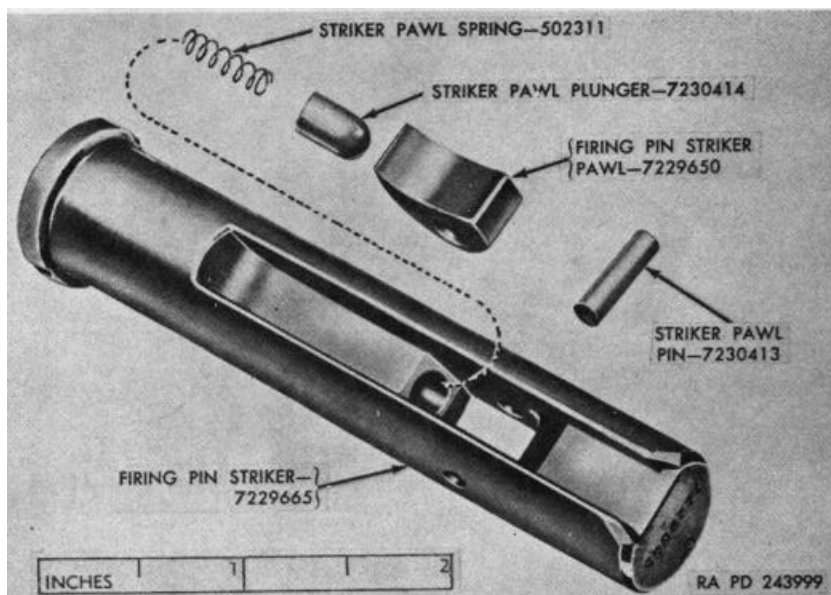

Figure 15. Firing pin striker and related parts.
e. Lift out firing pin striker (H). Drive out striker pawl pin and remove firing pin striker pawl, striker pawl plunger, and striker pawl spring (fig. 15).
f. Depress the selector plunger (P), raise housing cover (D), and remove firing selector (Q). Withdraw the firing lever (A) slightly over one-eighth of an inch to disengage the firing lever spring (M), rotate slightly and push the lever in again to eject the spring and withdraw the firing lever. Pry firing lever spring out of lever spring sleeve (N), using the firing lever.
g. Shake out the striker pawl tripper (B).
h. Drive out cover pin (C) and remove cover (D).
i. Chip off staking around selector plunger (P) with a small rod through other side of housing (S); drive out plunger (P) and spring (R).
- b. Assemble firing pin striker unit as outlined in (1) and (2) below.
- (1) Insert striker pawl spring and striker pawl plunger in their seat in the firing pin striker (fig. 15).
- (2) While compressing the spring, insert firing pin striker pawl, higher side against plunger, and secure with striker pawl pin (fig. 15).
- c. Slide the firing spring stop (J) over the firing pin striker (H) and follow with the firing spring (K).
- d. Insert the selector plunger spring (R) and selector plunger (P) into the middle side hole of the firing mechanism housing (S) and peen lightly.
- e. Press in the selector plunger (P) and press housing cover (D) into position so as to permit insertion of cover pin (C) from plunger side of firing mechanism housing (S). With cover pin in position, leave the cover open.
- f. Assemble firing lever spring (M) in the lever spring sleeve (N), loading the spring about one-half turn and latching the shorter end with the notch in end of sleeve. Push this unit into the firing mechanism housing (S).
- g. Place striker pawl tripper (B) in slot in top of firing mechanism housing, with flat side of long end facing base cap (G). Insert firing lever (A) from left side of housing so that it mates with opening in striker pawl tripper. With one finger over the lever spring sleeve (N), press in the firing lever (A) until the slot on its end engages the short leg of the firing lever spring (M).
- h. Insert firing selector (Q) in the firing mechanism housing and close the housing cover (D).
- i. Slide firing pin striker (H) with assembled parts into the firing mechanism housing (S) by alining grooved lines on striker and housing.
- j. Screw the firing mechanism housing with assembled parts onto the housing adapter (F) and tighten the setscrew (L).
- k. Set firing selector (Q) for lever fire and check for proper operation.
- l. Holding mortar tube (E) in formed jaws, screw on the base cap and firing mechanism housing, drawing up gastight.